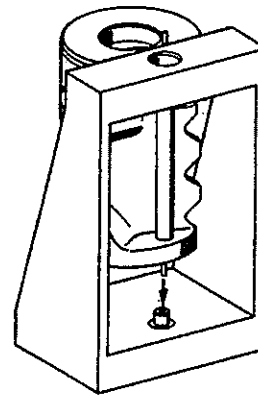

Fig.26
Introduce valve insert (109) as far as possible in piston (100). Mount piston in tool [6] with the caulked area pointing upwards (Fig.26).